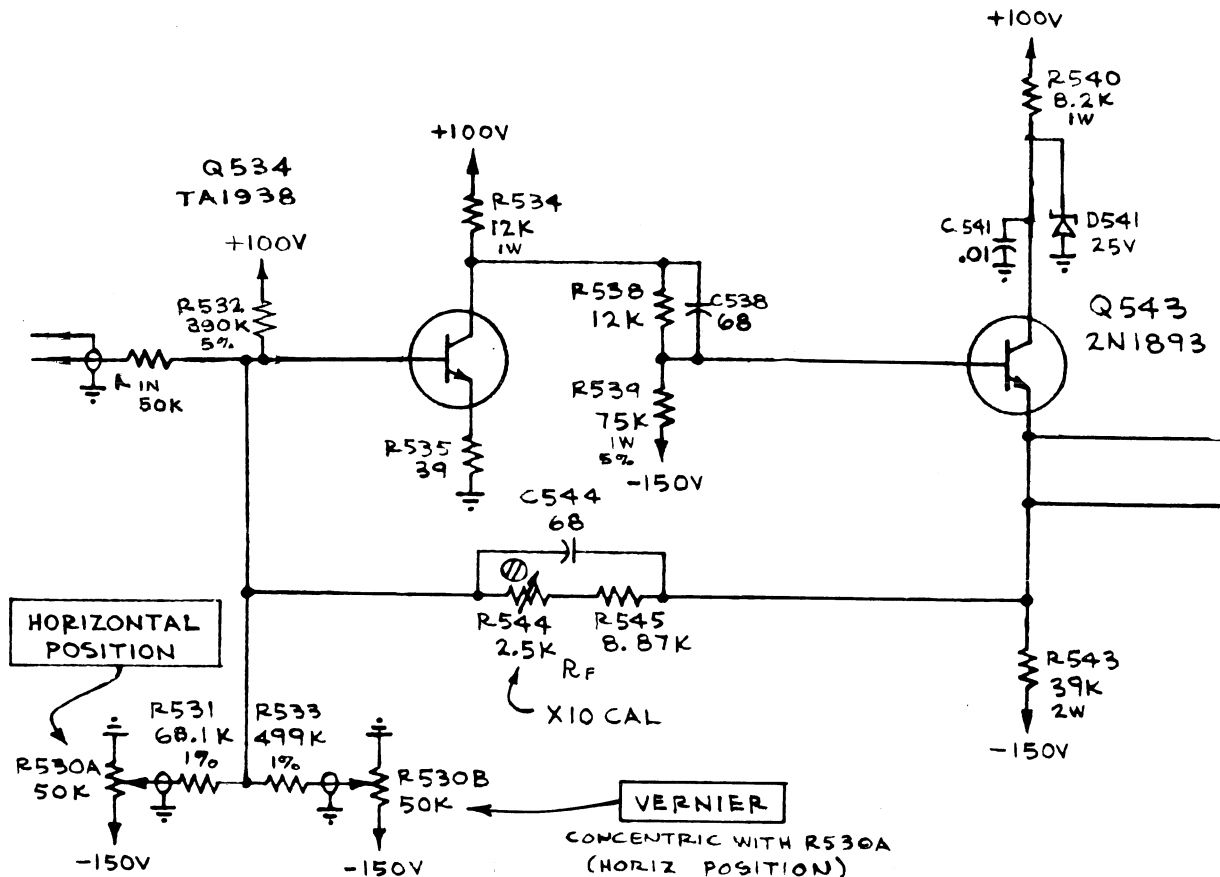

Figure 7-1
3. First and second stage (Fig. 7-1):